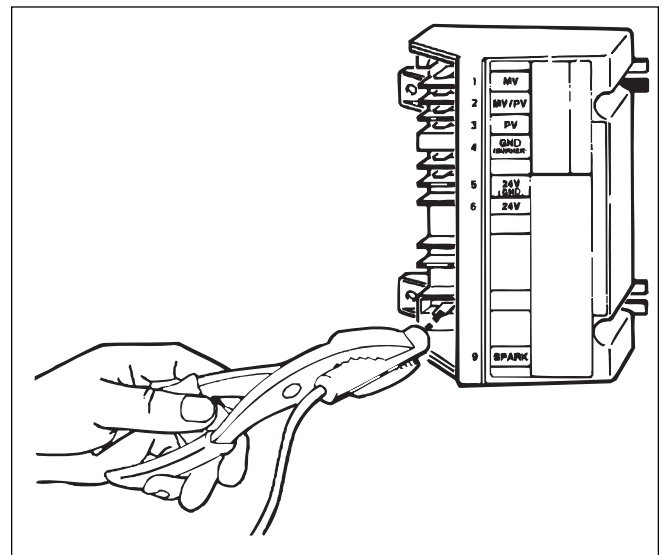

Figure 40. High voltage ignition test.
3. If no sparking is heard, pull the ignition lead from the ignition control and hold the bare terminal 1/8 to 3/16 inch (3.2 to 4.8 mm) from the ignition stud with a pair of insulated pliers (see Figure 40).